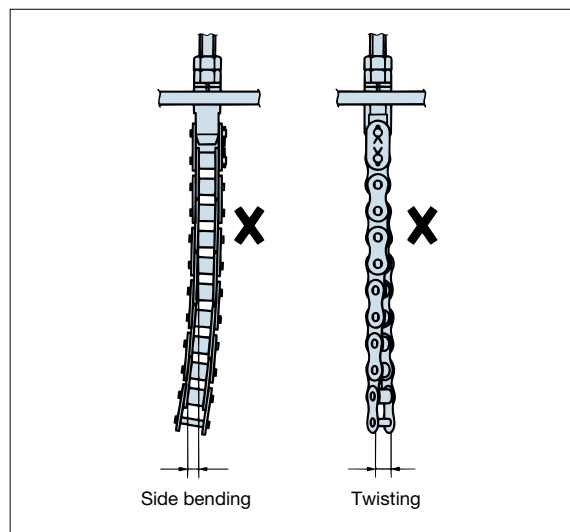

Fig. 32 Twisting of the roller chain
- 4. Inspect for twisting and side bending of the roller chain. If partial twisting or side bending of the chain occurs, the complete roller chain should be replaced. (Fig. 32)